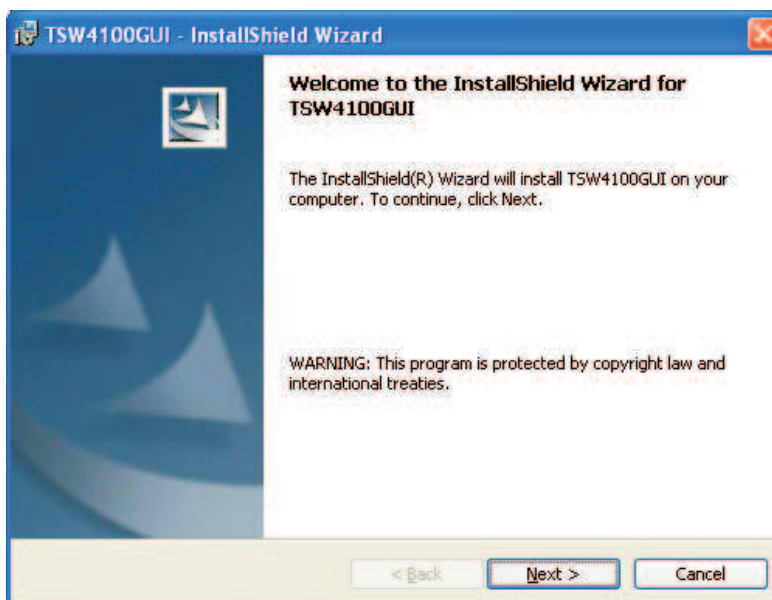

Figure 8. TSW4100 Installation Welcome
1. Double-click the *TSW4100GUI\installer.exe* filename found in the top-level folder of the TSW4100 Installation CD-ROM. The TSW4100 Installation Wizard (Figure 8) displays. Click **Next**.